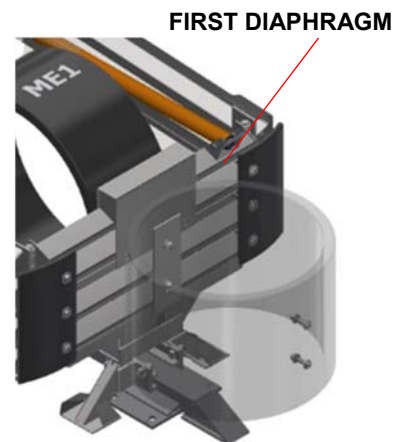

Figure 44
- 4) Wrap a chain, 3/8"X20' Grade 40 minimum, around the first Diaphragm (Figure 44). Attach both ends of chain to truck bumper anchor points.